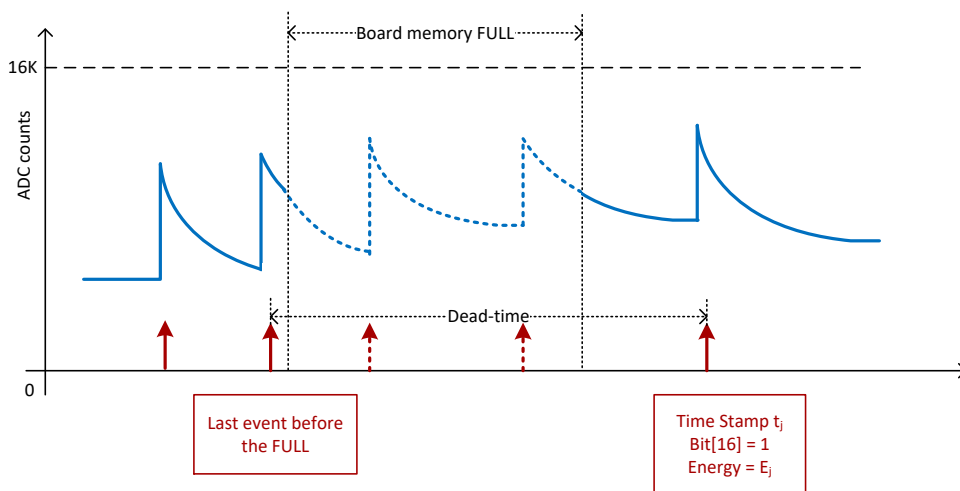

Fig. B.8: Dead-time in case of FULL memory status. Events in the FULL are identified but not saved.
bit[4] = INPUT SATURATION: identifies where an event saturated the input dynamics. The event that saturates the dynamics has Energy = 0x7FFFF, while the PU flag is set to 1 only if there is also a pile-up. See **Fig. B.8**.
4. DEAD_TIME in case of FULL board memory (see **Fig. B.8**). When the memory of the board is full (which is usually due to a write event), the board is not able any more to transfer the event data. When the board is ready again, the first event after the FULL will have the bit[16] set to 1, and the energy value as read from the algorithm. The dead-time is equal to the time difference between the last trigger occurred and the trigger after the FULL status.